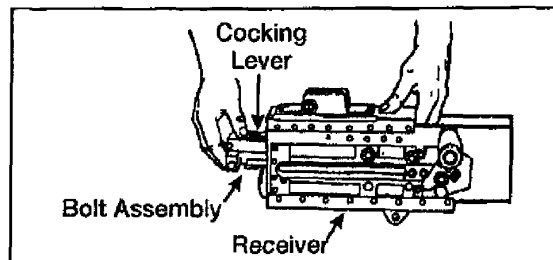

Figure 071-022-0001-38. Installation of the bolt assembly
- (15) Hold cartridge extractor in vertical position and insert shank end of cartridge extractor into left side of bolt. Make sure cartridge extractor fits into bolt as far as possible.
- (16) Rotate cartridge extractor downward to full horizontal position. Check that flange on bottom of cartridge extractor has engaged shoulder on bolt.
- (17) Ensure cocking lever is forward.
- (18) Push bolt assembly forward into receiver until bolt latch engages notches in top of bolt assembly (figure 071-022-0001-38).
- (19) If you cannot install the bolt this way, remove the barrel extension and buffer assembly from the receiver. Install the bolt assembly into the barrel extension and buffer assembly, then install them in the receiver (figure 071-022-0001-39).